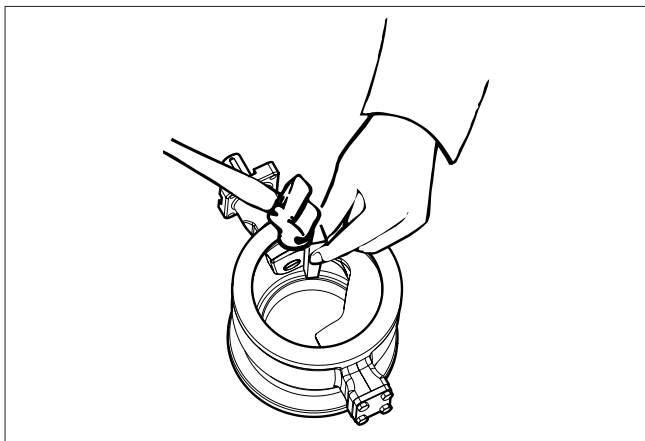

Fig. 21 Securing with a plastic spindle
- Use a plastic spindle to ensure that the seat is correctly placed and can move freely, Fig. 21.